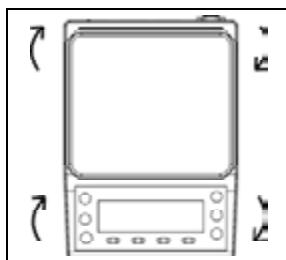

Figure 2-6. Unlock feet/adjusters
1. Turn the feet/adjusters as shown in Figure 2-6 to unlock them.